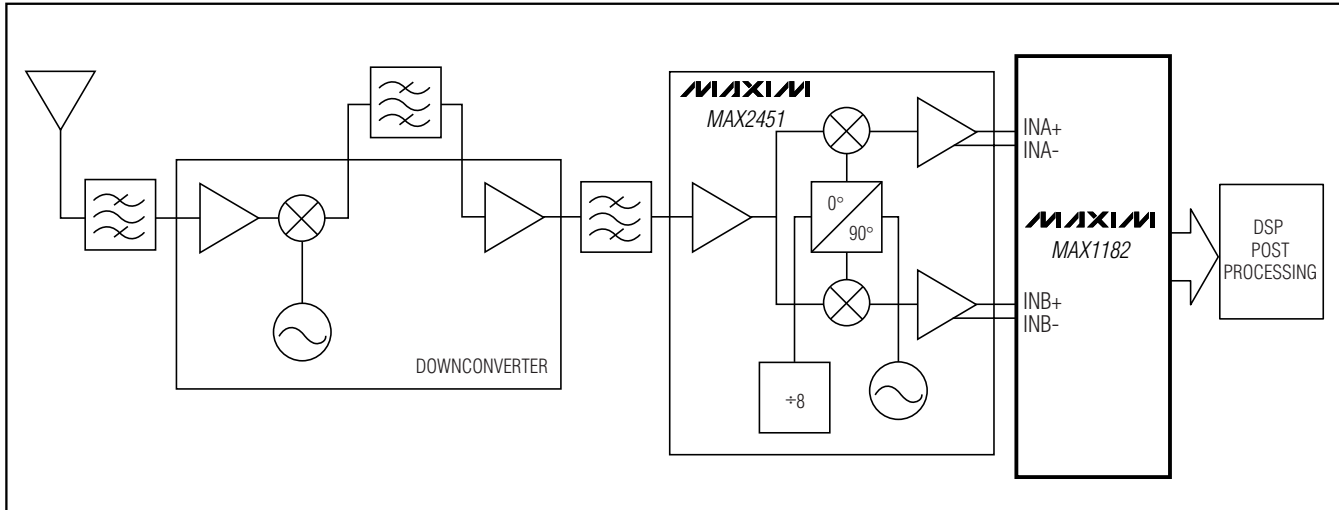

Figure 8. Typical QAM Application, Using the MAX1182
The most frequently used modulation technique for digital communications applications is probably the Quadrature Amplitude Modulation (QAM). Typically found in spread-spectrum based systems, a QAM signal represents a carrier frequency modulated in both amplitude and phase. At the transmitter, modulating the baseband signal with quadrature outputs, a local oscillator followed by subsequent up-conversion can generate the QAM signal. The result is an in-phase (I) and a quadrature (Q) carrier component, where the Q component is 90 degree phase-shifted with respect to the in-phase component. At the receiver, the QAM signal is divided down into its I and Q components, essentially representing the modulation process reversed. Figure 8 displays the demodulation process performed in the analog domain, using the dual matched 3V, 10-bit ADC MAX1182 and the MAX2451 quadrature demodulator to recover and digitize the I and Q baseband signals. Before being digitized by the MAX1182, the mixed-down signal components may be filtered by matched analog filters, such as Nyquist or pulse-shaping filters which remove any unwanted images from the mixing process, thereby enhancing the overall signal-to-noise (SNR) performance and minimizing inter-symbol interference.